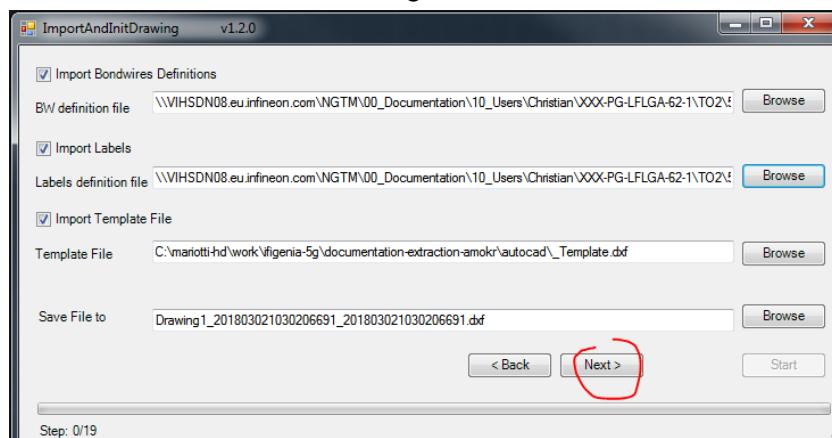

Figure 62 AutoCAD addon import dialog
3. run the command: **INITDRAWING** and select the proper .bom and .bwp files and template for autocad as shown in Figure 62.